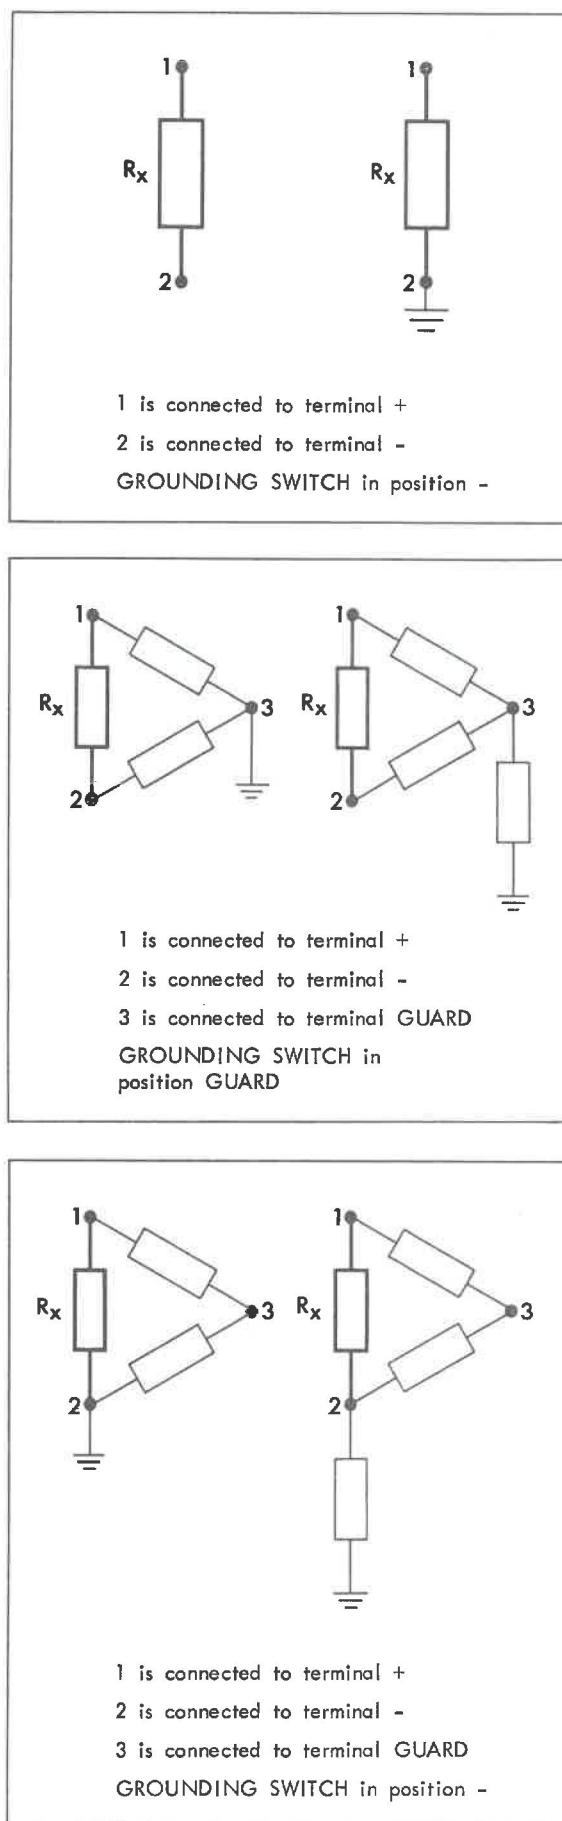

Fig.9. How to connect the Unknown
The GROUNDING SWITCH (7) permits different types of grounding as detailed in SECTION E, Fig.9.
The black terminal ( $R_X^-$ ) is negative, the red terminal ( $R_X^+$ ) is positive, and the third terminal (GUARD) is a guard terminal. (See SECTION E, Fig.9, for further details.)
- 2) Connect the unknown to the terminals + and -, and the guard terminal, if any, of the unknown to the terminal GUARD as shown in Fig.9. (The function selector in position CALIBRATE.)
- 3) Set the GROUNDING SWITCH as shown in Fig.9.
2) Connect the unknown to the terminals + and -, and the guard terminal, if any, of the unknown to the terminal GUARD, as shown in Fig 9. (The function selector in position CALIBRATE.)
3) Set the GROUNDING SWITCH as shown in Fig. 9.